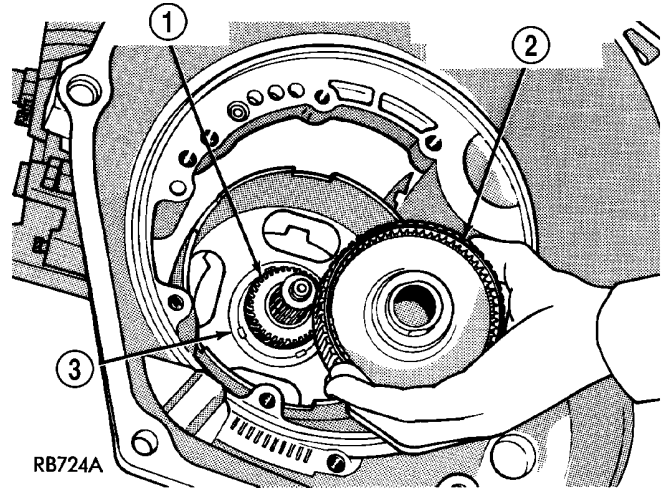

Fig. 35 Front Planetary Gear Assembly
(35) Remove front planetary gear assembly from output shaft (Fig. 35).
(36) Remove #6 thrust washer from sun gear driving shell (Fig. 35).